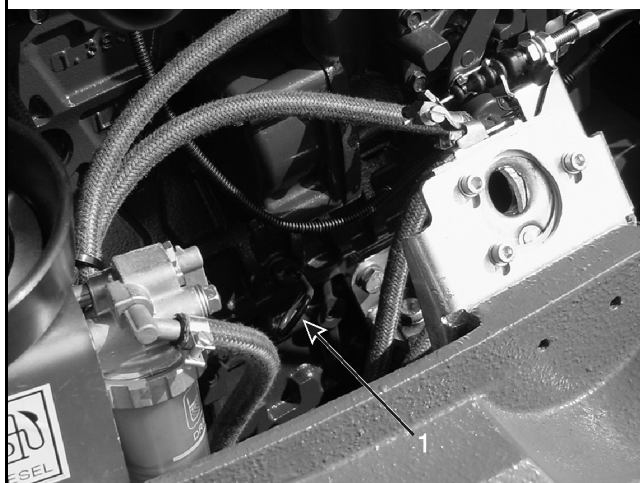

Figure 4-2 Engine Oil Dipstick Locations
3. Check the engine oil level using the dipstick located at the side of the engine near the engine cover latch (1, Figure 4-2).